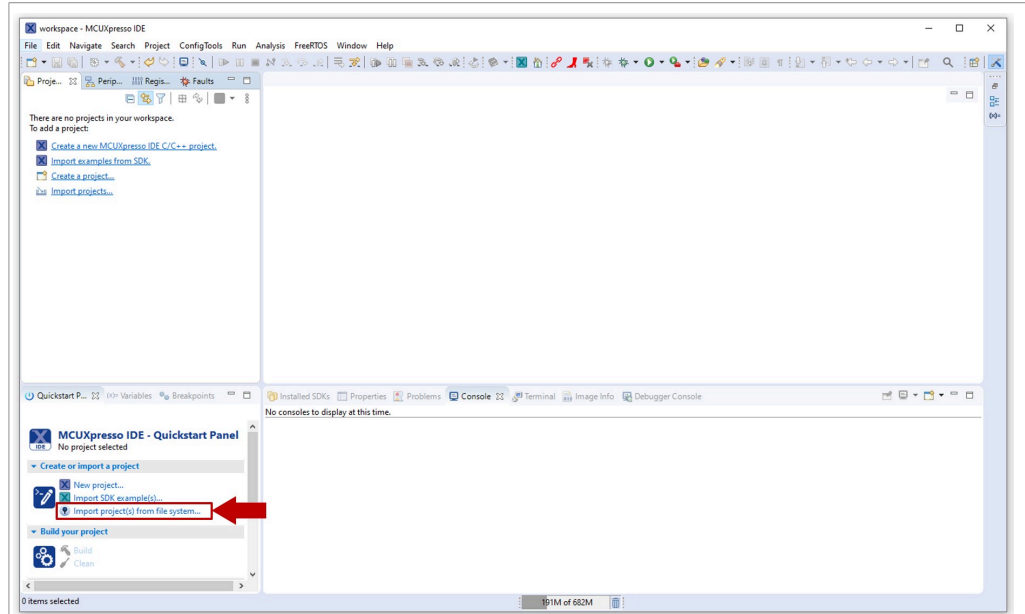

Figure 15. Import projects from file system
- 3. Click **Import project(s) from file system** in the MCUXpresso IDE quick start panel as shown in Figure 15: